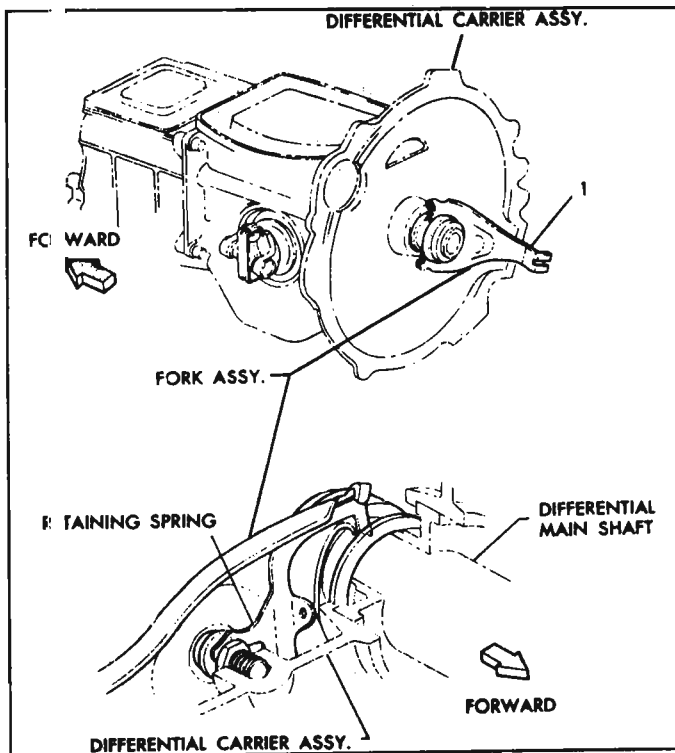

Fig. 6-8—Clutch Fork Installation
- Remove the two screws securing the clutch pull rod dust seal assembly, then remove the pin attaching the pull rod to the clutch fork (fig. 6-8).
1. Install the clutch release bearings and clutch fork (fig. 6-8) on the differential carrier. The bearing slips over the shaft and the fork has a spring retainer and socket which attaches to a ball stud on the carrier.